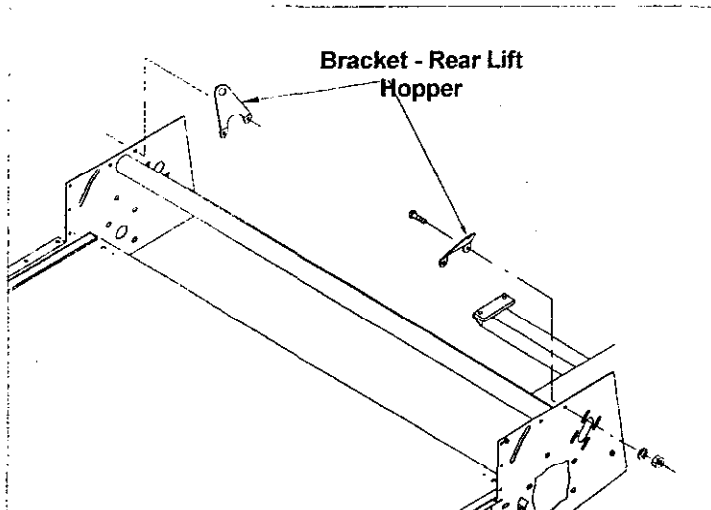

Figure 4
10. Attach the Bracket-Rear Lift to each side of the Topdresser as shown in Fig. 4. Use 3/8" x 1" bolts and secure tightly.